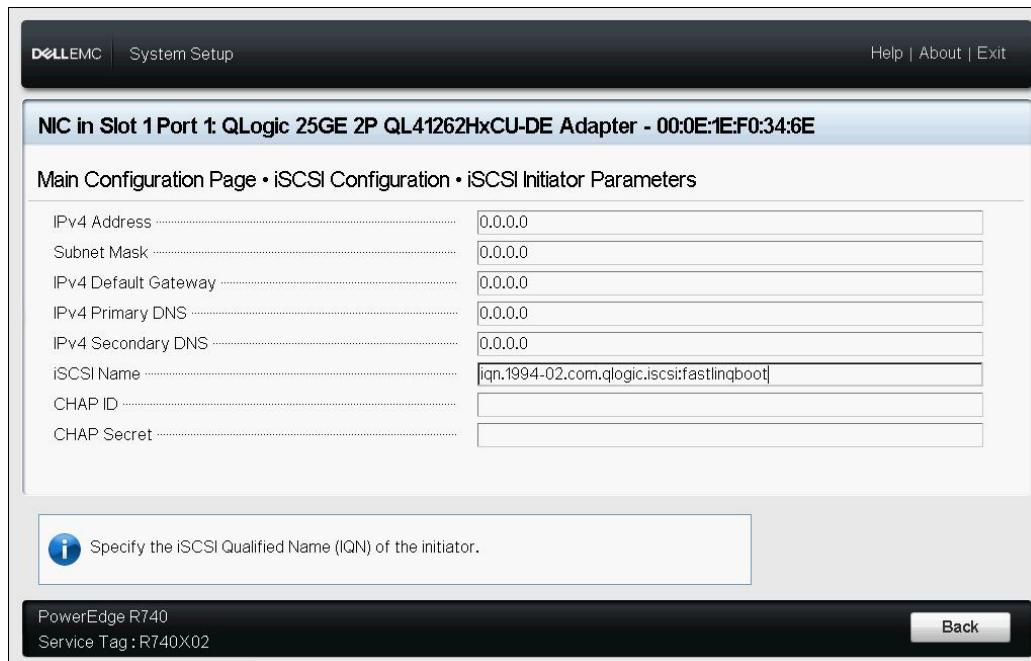

Figure 9-10. System Setup: iSCSI Initiator Parameters
6. On the iSCSI Initiator Parameters page (Figure 9-10), select the following parameters, and then type a value for each: